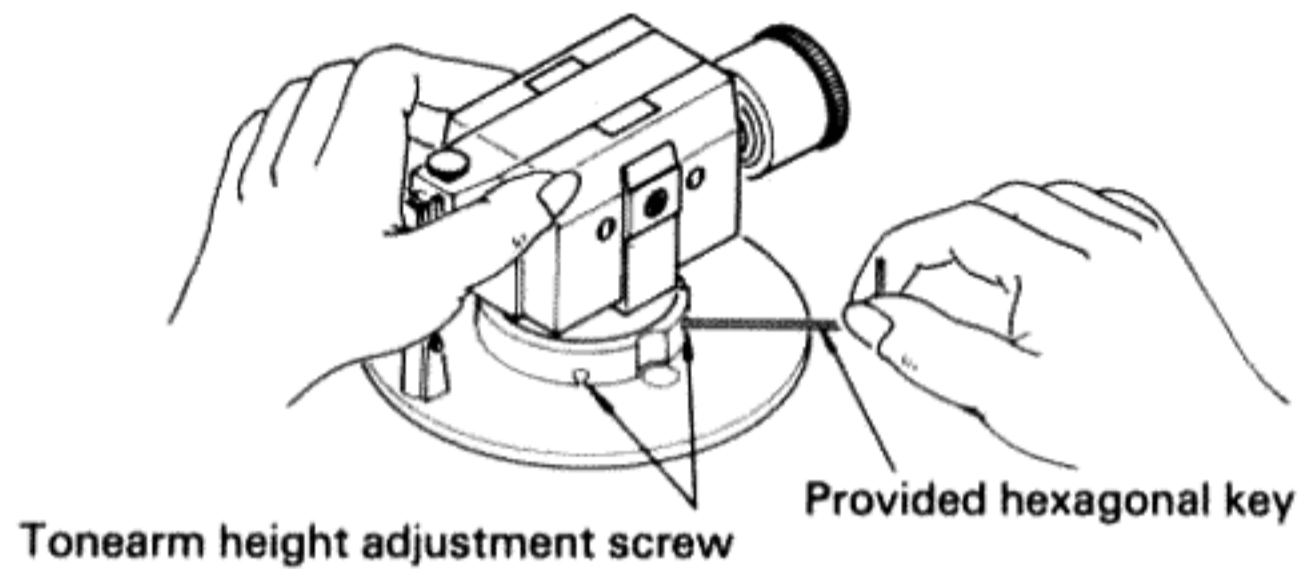

Fig. 2
1. With the arm clamped to the rest, loosen the tonearm height adjustment screws with a provided hexagonal key as shown. Then, adjust the arm height by moving the arm up and down so that the stylus tip is about 25 mm up from the control panel. (See Fig. 3.) After adjustment, securely tighten the adjustment screws. (See Fig. 2.)